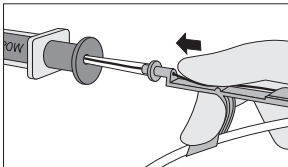

Figure 2
- Place tip of Arrow Advancer – with "J" retracted – into the hole in rear of Arrow Raulerson Syringe plunger or introducer needle (refer to Figure 2).